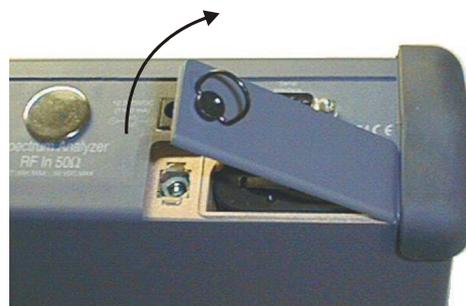

Figure 3-3. Removing the Battery Access Door
3. Lift the door and remove, as illustrated in Figure 3-3.